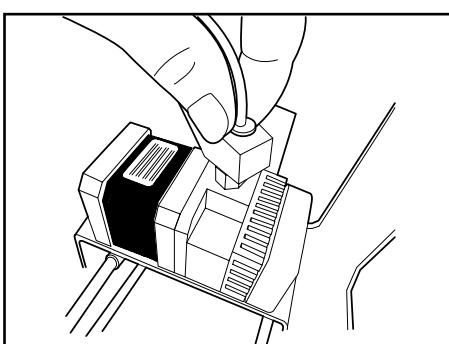

Figure 6.2 Press down on the connector and pull the Fibonacci tube upwards
- ① First, load the filament in order to check whether the nozzle is genuinely blocked. To do this, follow the step-by-step instructions on page 25.
- ② If you're sure the nozzle is definitely blocked, unload the filament before you start the cleaning process. To do this, follow the instructions on page 28.
- ③ Detach the Fibonacci guide tube from the extruder by pressing down on the connector and pulling the tube upwards (fig. 6.2).